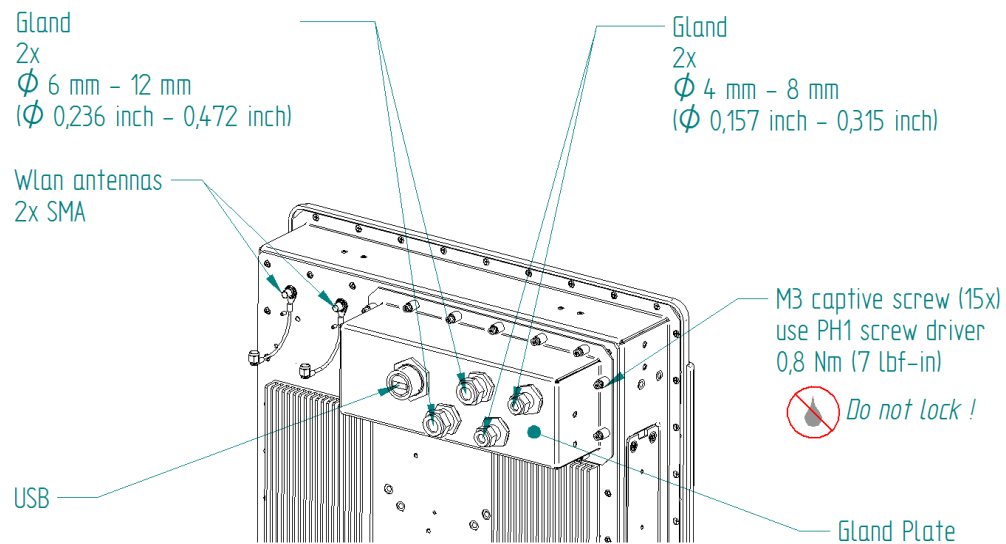

Figure 18: Gland Plate
1. Loosen the 15 captive screws that secure the Gland Plate to the unit as shown in Figure 18.